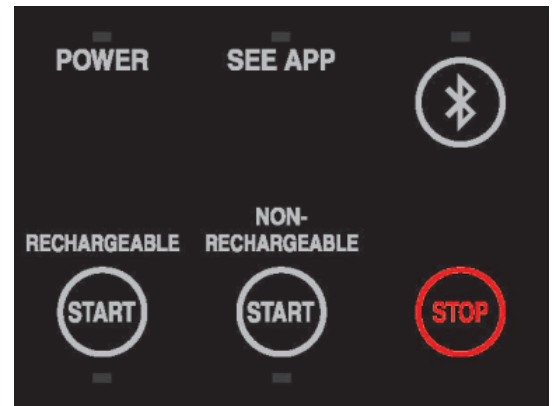

Figure 1
1. Connect the Redux-supplied power block cord into the back of the dryer. Connect the power block to a wall outlet. The Pro Link will power on automatically. Position the Pro Link on a stable, flat surface in such a manner that it does not prevent access to the power connection on the back of the dryer. The POWER light on the switch panel will illuminate (See Figure 1).
5. Select the type of battery used in the aids to be treated: RECHARGEABLE or NON-RECHARGEABLE. This allows the Pro Link to use the appropriate amount of heat depending on the type of aid consistent with most manufacturer's guidelines for maximum temperature. The drying process will start once either the RECHARGEABLE or NON-RECHARGEABLE button is pressed (see Figure 1).